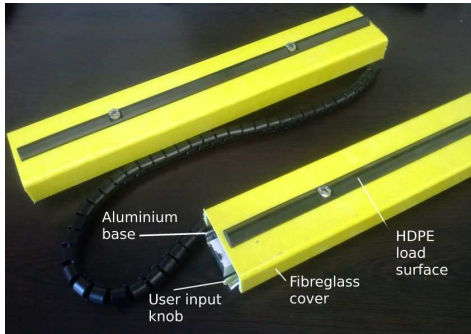

Fig. 1. Wireless talking scales items
- **Wireless Talking Scale** (one pair of cleats per hive, see figs. 1, 2, 3 & 4)